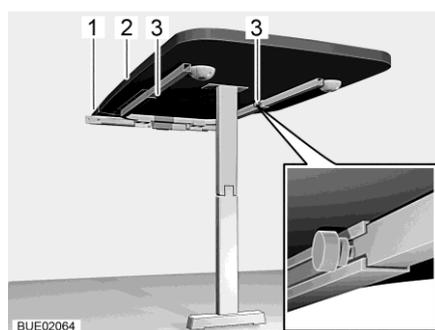

Fig. 135 Suspension table with fold-out leg
- Release two knurled screws (Fig. 135,3).
- Raise the table top (Fig. 135,2) slightly and pull it out as far as possible. The table extension has now been fully pulled out.
- Insert the table top extension (Fig. 135,1) into the table extension.
- Slightly lift the front of the table top (Fig. 135,2) and pull out.
- Remove the table top extension (Fig. 135,1) and store it securely.